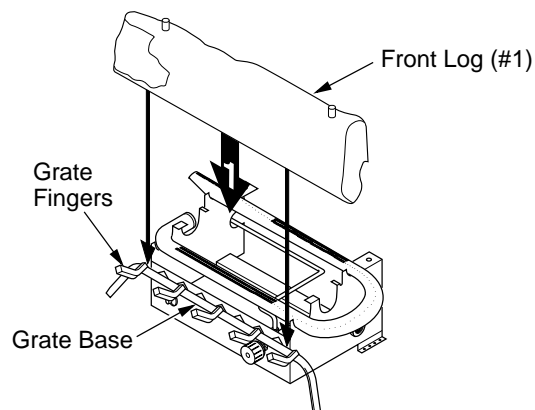

Figure 24 - Installing Front Log #1 (CCL3930PTB/NTB Shown)
1. Place the front log (#1) on the grate fingers. Make sure the front log rests firmly between the grate fingers and the grate base (see Figure 24).